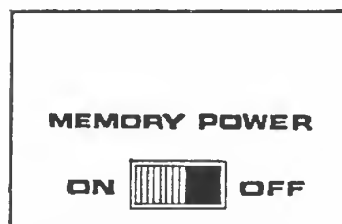

Figure 1.2 The memory power switch
2. Switch the **Memory Power** switch (located underneath the unit) to ON (Figure 1-2).